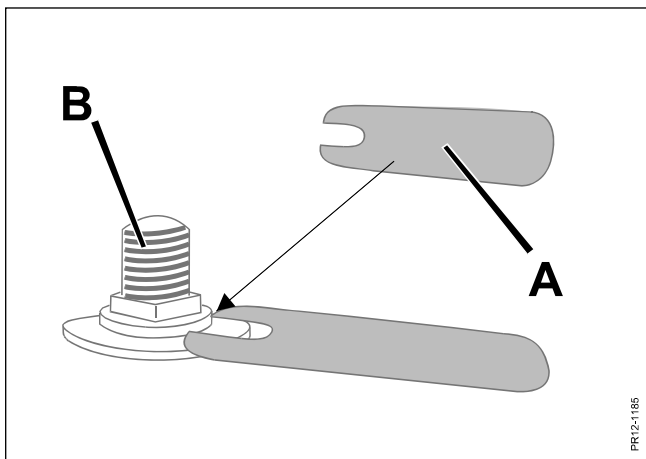

Fig. 5-9
- Fig. 5-9** In connection with replacement of blades check all blade bolts **B** on the discs regularly with the gauge **A** (in the spare parts package).